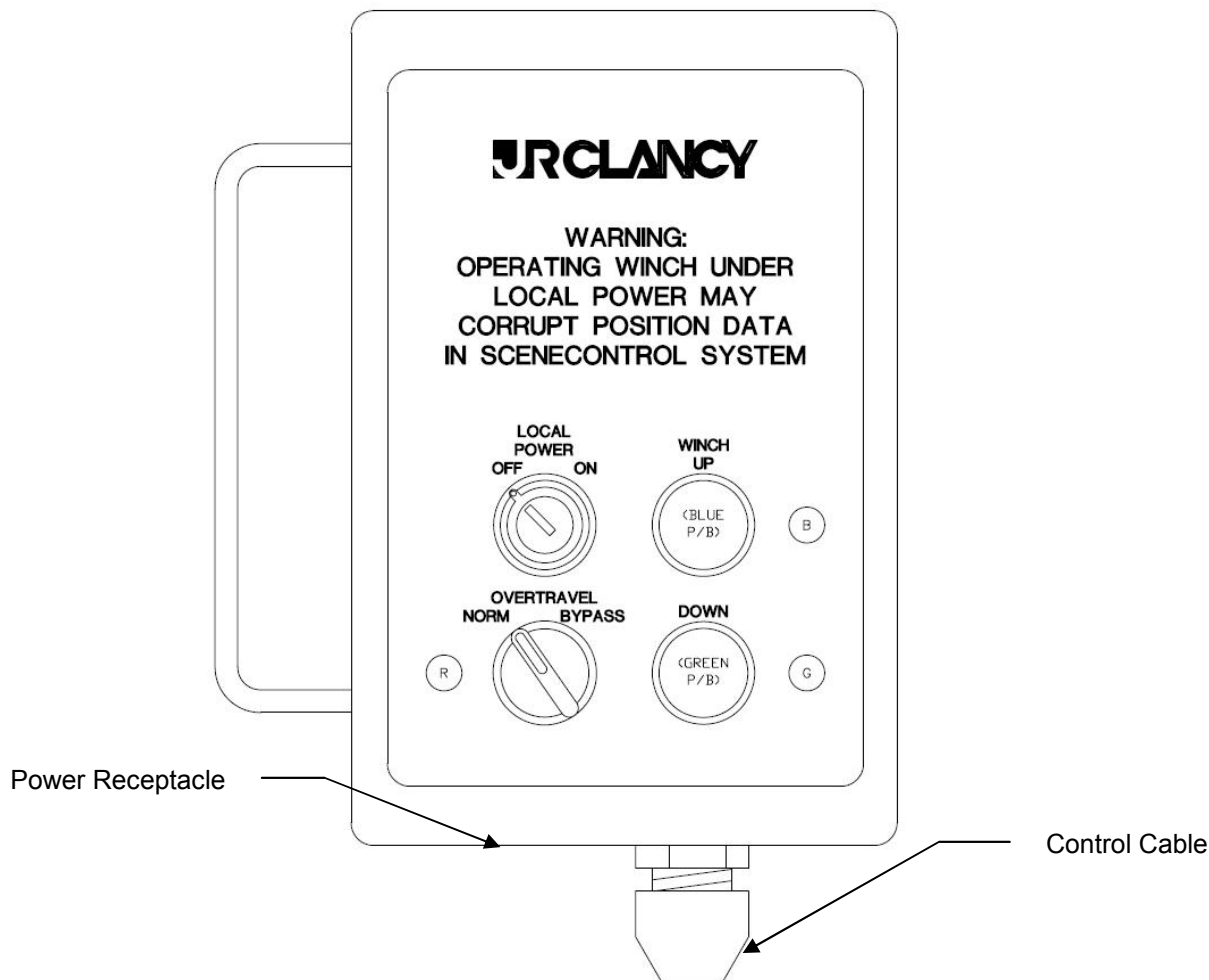

Figure 11: Face plate of the Maintenance Control Pendant
5. When the pendant is plugged into the PowerLift hoist, and the hoist has been supplied with three phase power, the controls on the face of the pendant will operate as follows. See Figure 11.
5. Loosen the locking nut on the down limit adjustment bolt and use a hex (Allen) key to turn the end fitting to move the limit as indicated in Figure 13. Move the limit switch until the switch arm is activated against the striker plate. There is a soft audible “click” when the switch is activated. When using the Maintenance Control Pendant, the Lower Limit Indicator will also light up when the switch is activated (see Figure 11). Tighten the locking nut when adjustment is complete.
9. While directly observing the striker plate and limit switch, loosen the locking nut and move the UP limit switch until the switch activates against the striker plate. See Figure 12. There is a soft audible “click” when the switch is activated. When using the Maintenance Control Pendant, the Upper Limit Indicator will also light up when the switch is activated (see Figure 11). Tighten the locking nut when adjustment is complete.